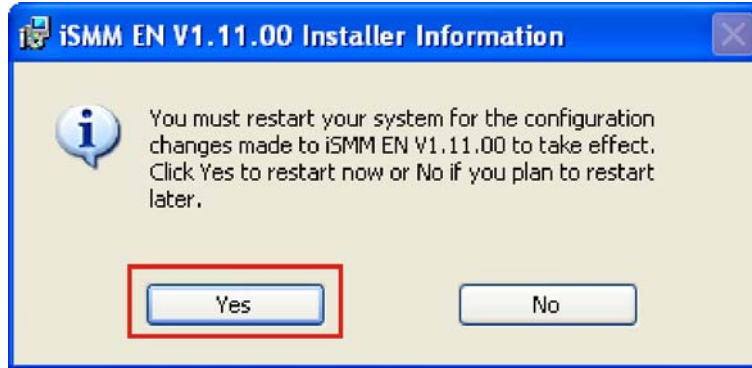

Figure 7-37: iSMM Restart Confirmation
Step 22: The **Restart Confirmation** screen appears.(Figure 7-37)